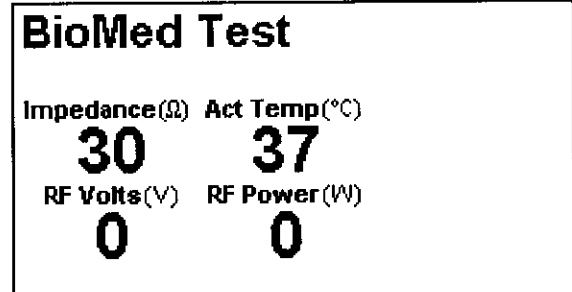

Figure 16: BioMed Test Screen
3. Confirm that the Biomed page is displayed (Figure 16). If not, check for proper cable connection or replace the cable.
4. Confirm that the BioMed page is displayed (Figure 16). If not, check for proper cable connection or replace the cable.